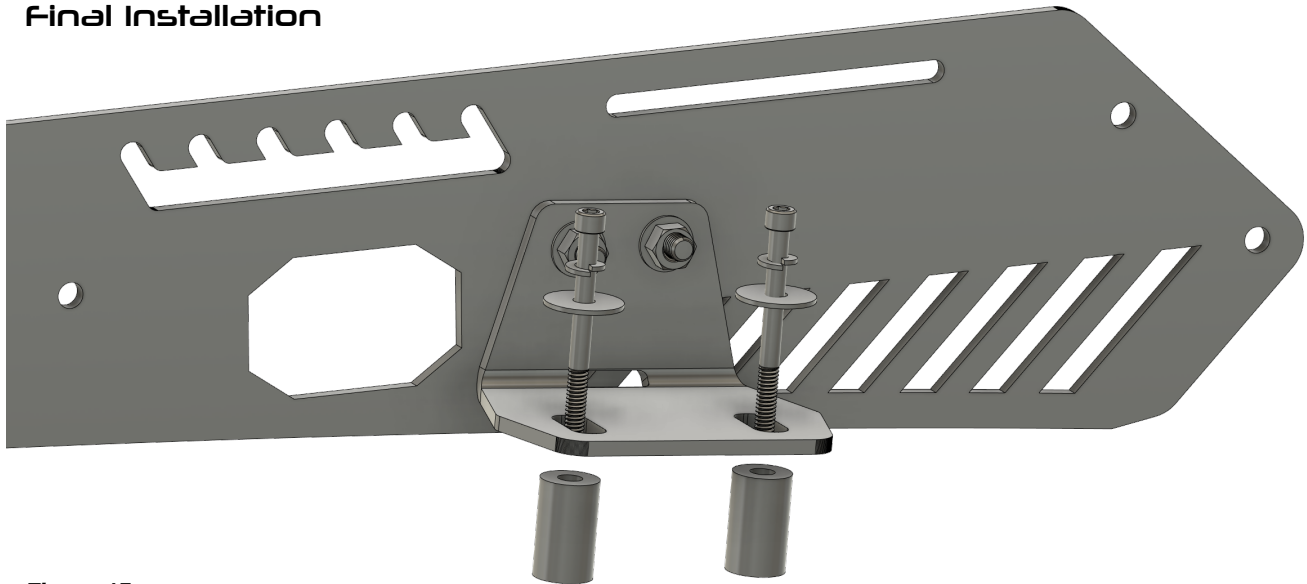

Figure 15
• Insert each hardware combination to match the order of assembly in Figure 15. Hand tighten with a 5mm Allen wrench. **DO NOT FULLY TIGHTEN** the hardware. Leave it loose to allow for adjustment. **REPEAT THE PROCESS** for the passenger side FRONT foot.